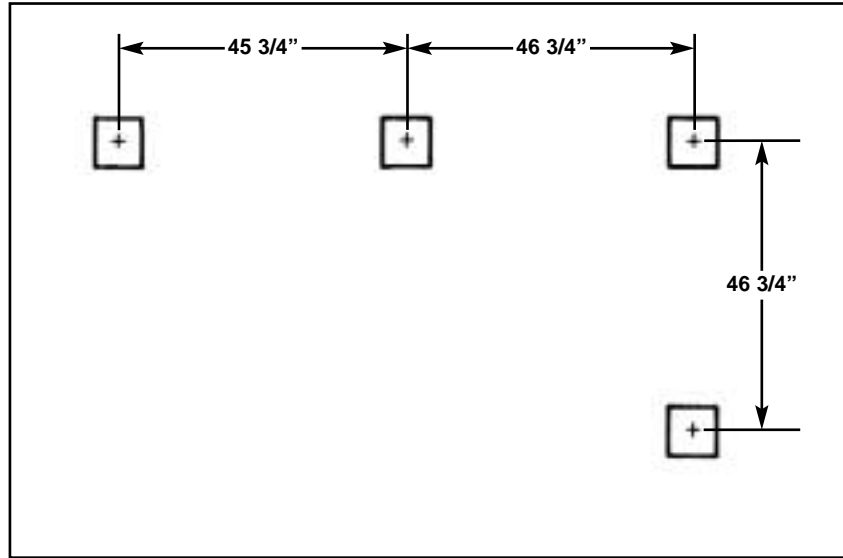

Figure 1
1. Space concrete footings as shown in Figure 1. Footings should be set in holes and filled with concrete for stability. Top of footing should be 2" to 3" above the natural grade. Check for level and squareness.